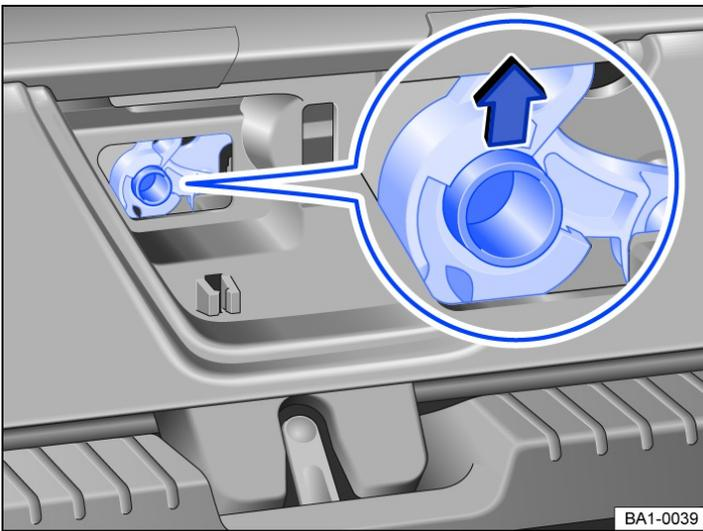

Fig. 2 In the boot lid: manual release mechanism for the boot lid.
— In the boot lid, press and hold the  → Fig. 2 button until the hazard warning lights flash.
- Insert a suitable object into the opening for the release lever and press in the direction of arrow → *Fig. 2* to unlock the boot lid.